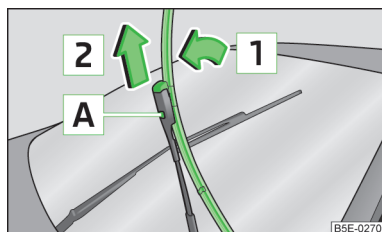

Fig. 213
- Raise the wiper arm away from the window » Fig. 213.